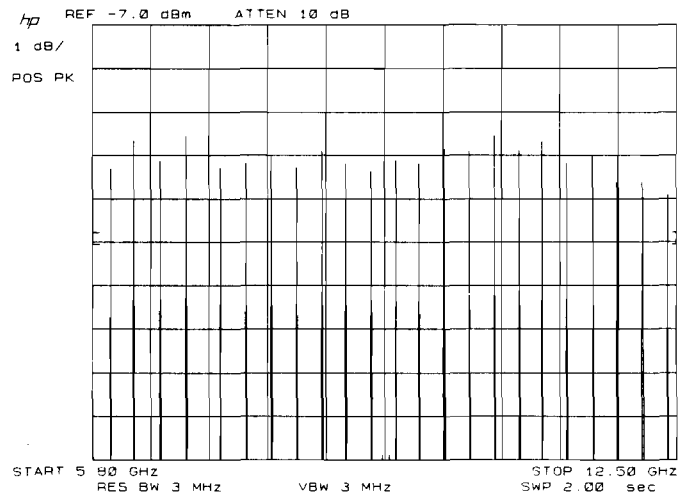

Figure 3-97.
97. On the spectrum analyzer, key in **TRACE A** **(CLEAR-WRITE)**, **(SWEEP TIME)** 2s, **MARKER** **(OFF)**, **(HOLD)**. As the spectrum analyzer completes each sweep, a series of approximately 23 new responses should be displayed, as shown in Figure 3-97. The